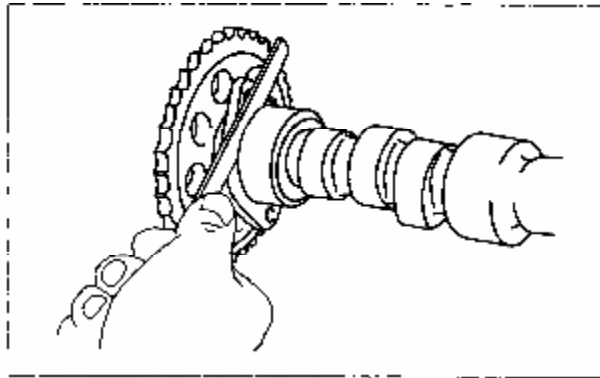

Figure 8-39 Measurement of Axial Clearance of Camshaft
8.4.4 Install the thrust plate and sprocket of camshaft onto camshaft, tighten the fixing bolts of camshaft sprocket with a 90N-M tightening torque, and then measure axial clearance between thrust plate and first journal thrust surface of camshaft with a plug gauge (see Figure 8-39). The normal axial clearance is 0.07~0.22mm. The maximum axial clearance is 0.30mm. If the clearance exceeds the maximum value, replace the camshaft bearing and if necessary, replace the camshaft, if necessary, replace the camshaft.